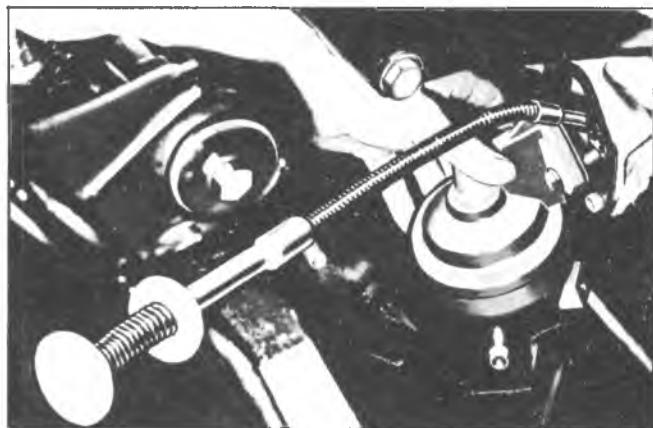

Fig. 4P-Installing V-8 Engine Fuel Pump
- NOTE:** On V8 engines, a pair of mechanical fingers or heavy grease may be used to hold fuel pump push rod while installing fuel pump (fig. 4P).